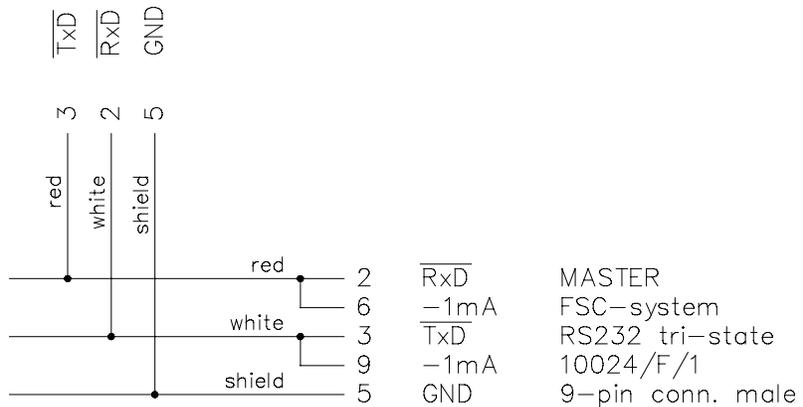

Figure 13 Connection between FSC master and max. 3 FSC slaves: RS-232 link (using an F-interface)
- **RS-232** communication (using an **F-interface**) (see Figure 13)